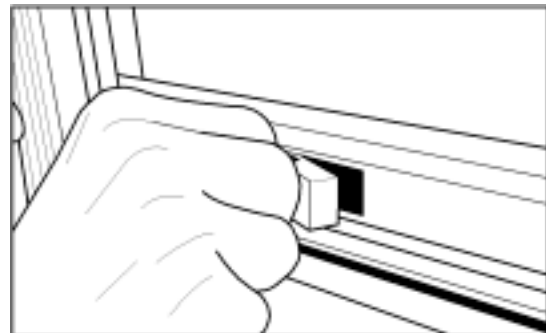

Figure 5—Latch Notch
| Safety | 2 | Figure 5—Latch Notch | 5 |
3. With latch in large notch, push finger holes outward until inside edge is exposed. Pull latch out of finger hole opening. **Figure 5.**